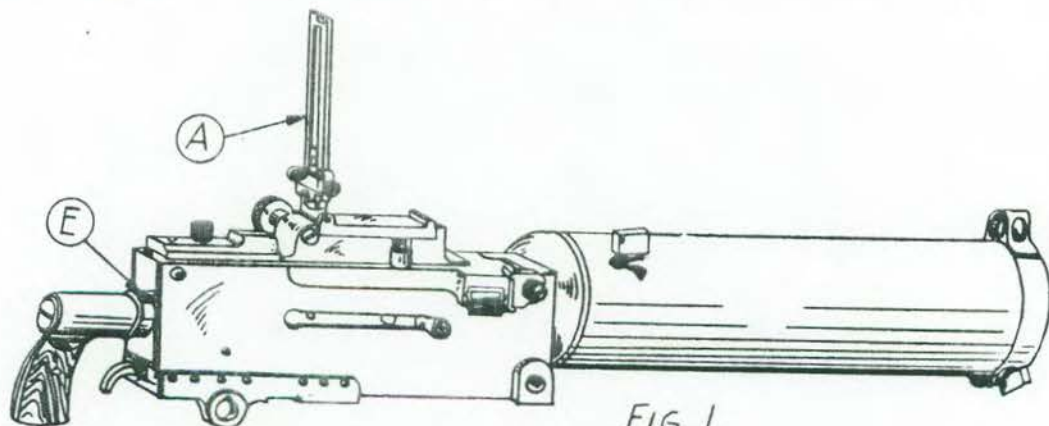

FIG. 1
- 1 RAISE REAR SIGHT (A), FIG. 1, TO POSITION SHOWN. PULL BACK ON LATCH KNOB (B), FIG. 2, AND RAISE COVER (C). PULL BACK ON BOLT HANDLE (D) AND WITH A SCREWDRIVER, PUSH IN ON DRIVING SPRING ROD (E), FIG. 1, AND TURN TO THE RIGHT A QUARTER TURN. PUSH (D) BACK TO POSITION SHOWN IN FIG. 2. NOW PUSH FORWARD ON KNOB (B) AND LIFT BACK PLATE (F) FROM SLOTS IN CASING.
- 2 PULL BOLT HANDLE (A), FIG. 1, BACK UNTIL IT WILL PULL OUT OF HOLE AT REAR OF SLOT. NOW PULL BOLT ASSEMBLY (B) OUT OF CASING.